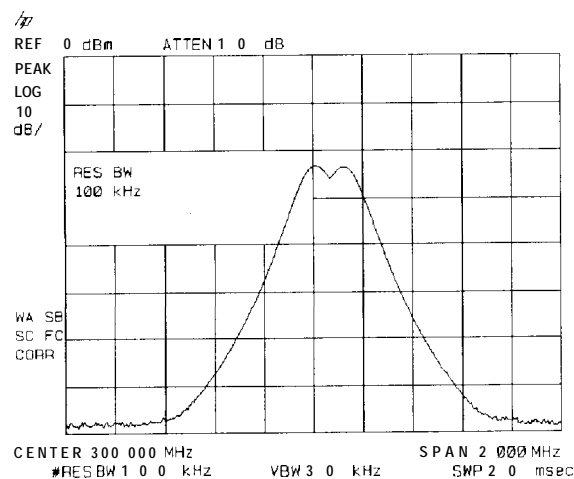

Figure 3-2. Resolving Signals of Equal Amplitude
Generally, to resolve two signals of equal amplitude, the resolution bandwidth must be less than or equal to the frequency separation of the two signals. If the bandwidth is equal to the separation a dip of approximately 3 dB is seen between the peaks of the two equal signals, and it is clear that more than one signal is present. See Figure 3-2.
**Note** When using an HP 8590L with Option 713 or an HP 8592L with Option 713, and the signal peak cannot be found, increase the span to 20 MHz by pressing **SPAN** 20 **(MHz)**. The signal should be visible. Press **PEAK SEARCH**, **(MKR FCTN)**, **MK TRACK ON OFF (ON)**, then **SPAN** 2 **(MHz)** to bring the signal to center screen. Then press **MK TRACK ON OFF** so that **OFF** is underlined to turn the marker track function off.
4. Since the resolution bandwidth must be less than or equal to the frequency separation of the two signals, a resolution bandwidth of 100 kHz must be used. Change the resolution bandwidth to 100 kHz by pressing **BW** 100 **(kHz)**. Two signals are now visible as in Figure 3-2. Use the knob or step keys to further reduce the resolution bandwidth and better resolve the signals.